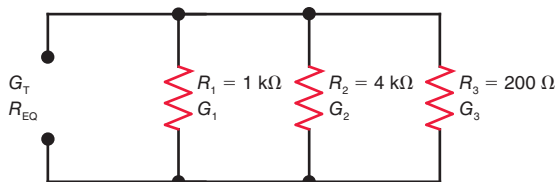

Figure 6-24
6.30 In Fig. 6-24, solve for G_1 , G_2 , G_3 , G_T , and R_{EQ} .